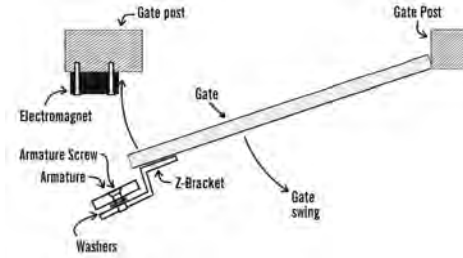

FIG. 4 - Installation on a sliding gate
- Sliding gate** (fig. 4) — The gate slides instead of swings away from a fixed gate post. In this case, use L-brackets to mount the electromagnet and the armature perpendicular to each other.